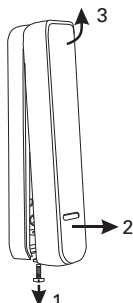

Fig. 2 / Abb. 2 / afb. 2: Cover removal /
1. Remove the cover (see Fig. 2).